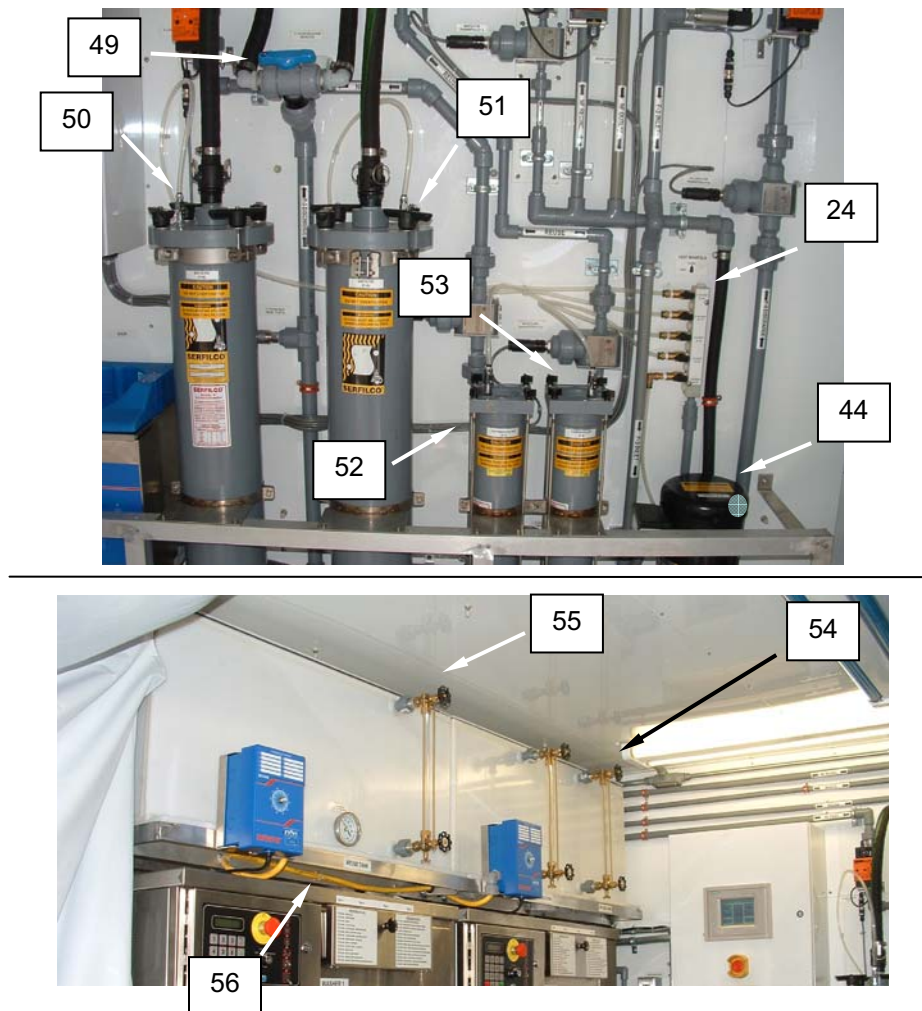

Figure 25. Initial Fill Cycle.
8. Use valve V-9 (**Figure 25, Item 49**) to select either filter F-1A (**Figure 25, Item 50**) or F-1B (**Figure 25, Item 51**).
9. Open the vent valves on the vent valve manifold (**Figure 25, Item 24**) for Filter F-1A (**Figure 25, Item 50**) or F-1B (**Figure 25, Item 51**) (whichever is selected) and Filter F-2 (**Figure 25, Item 52**). As the Water Treatment System Hold Tank (WTS) (**Figure 25, Item 46**) fills, a level sensor will activate causing pump P-3 to run.
10. Monitor water flow and ensure most of the air is evacuated from the line on Filter F-1A (**Figure 25, Item 50**) or F-1B (**Figure 25, Item 51**) (whichever is selected) and Filter F-2 (**Figure 25, Item 52**), close the vent valves.
11. Open the vent valves on the vent manifold of Filter F-3 (**Figure 25, Item 53**) and P-4 Pump (**Figure 25, Item 44**).
12. As the Nano Feed Tank (**Figure 25, Item 54**) fills, a level sensor will activate causing pump P-4 to run.
13. Once water is observed flowing through the clear vent hoses on F-3 (**Figure 25, Item 53**) and P-4 pump (**Figure 25, Item 44**), close the vent valves.
14. As the initial fill continues, the Reuse Tank (**Figure 25, Item 55**) will fill. Initial fill is completed when the washer cycle is complete. Monitor the Reuse Tank thermometer (**Figure 25, Item 56**) to ensure the water is 110 °F minimum.